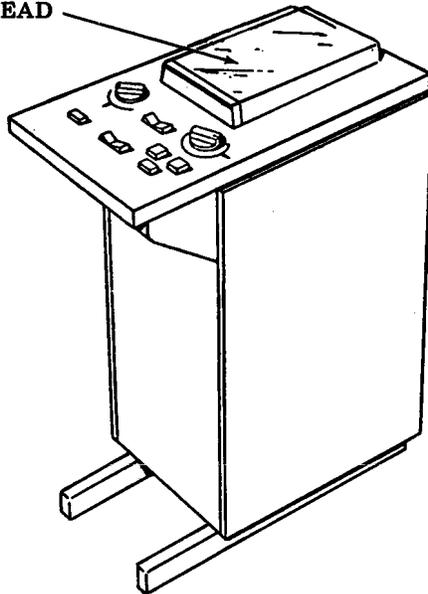

Fig. 1
(1) 2541 Buffer/Interface Set Unpacking (Cont)
(2) DATASPEED Magnetic Tape Set Unpacking
- (d) Remove packing materials from set and remove tissue from tape head (see Fig. 1).